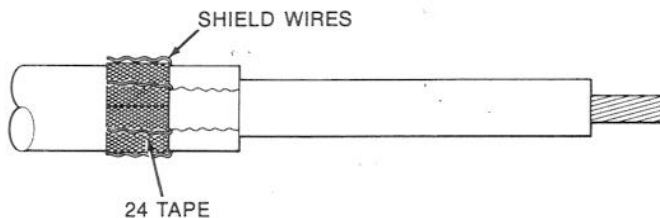

Figure 5
3. Bend wires back over 24 Tape and cut excess off at edge of 24 Tape. Figure 5.